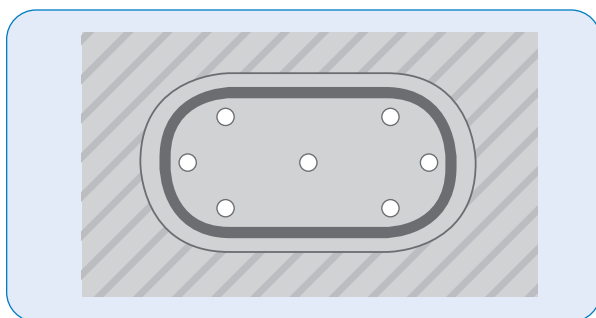

Figure 3
- An adequate number of air evacuation ports⁵ that are appropriately sized and correctly placed are important for good forming and unrestricted air release (*Figure 3*). We recommend: